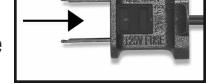

Fig. 14
4. Close fuse compartment by sliding access cover back in towards cord side of plug (Figure 14).